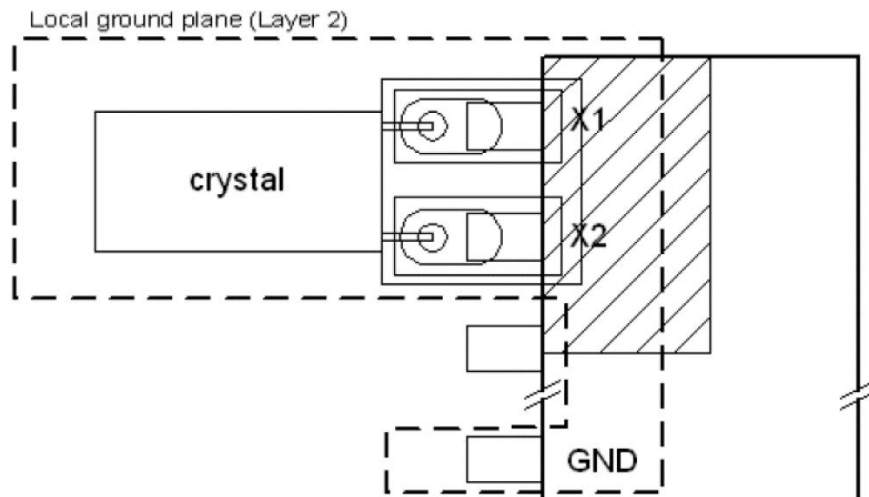

Figure 5. Recommended layout for crystal.
5. It may also be helpful to place a local ground plane on the PC board layer immediately below the crystal. This helps to isolate the crystal from noise coupling from signals on other PC board layers. Note that the ground plane needs to be in the vicinity of the crystal only and not on the entire board. See Figure 5 for an illustration of a local ground plane. Note that the perimeter of the ground plane does not need to be larger than the outer perimeter of the guard ring.